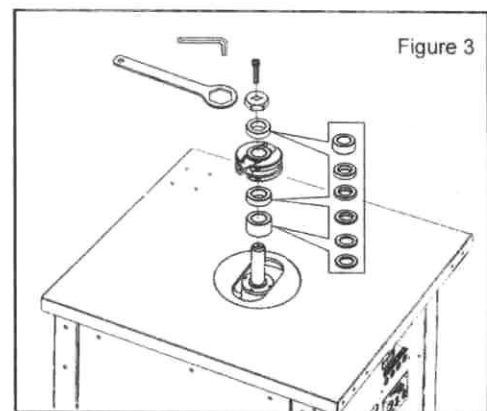

Figure 3
2. Position the moulding tool with the spindle ring onto the spindle and secure the lock flange with Allen bolt M12x25. See **Figure 3**.